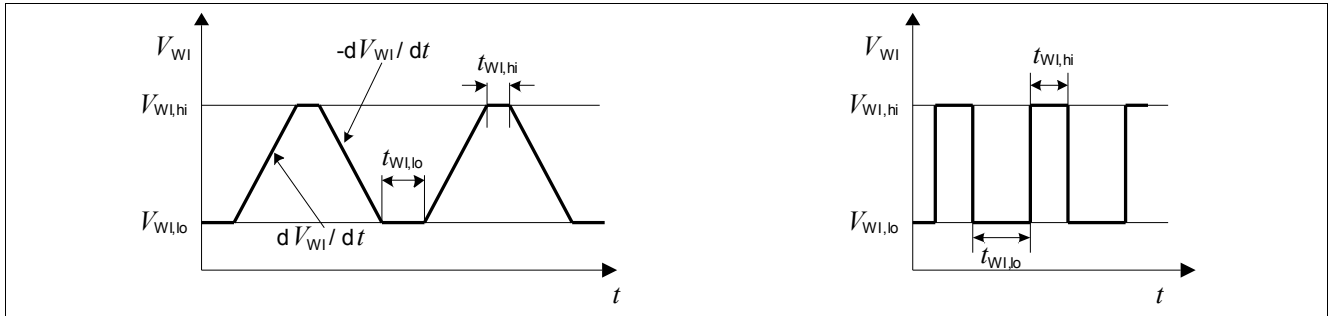

Figure 9 Test Pulses Watchdog Input WI
The watchdog is triggered by an positive edge at the watchdog input "WI". The signal is filtered by a bandpass filter and therefore its amplitude and slope has to comply with the specification 9.2.11 to 9.2.14. For details on the test pulse applied, see Figure 9.
2) For details on the test pulse applied, see Figure 9.